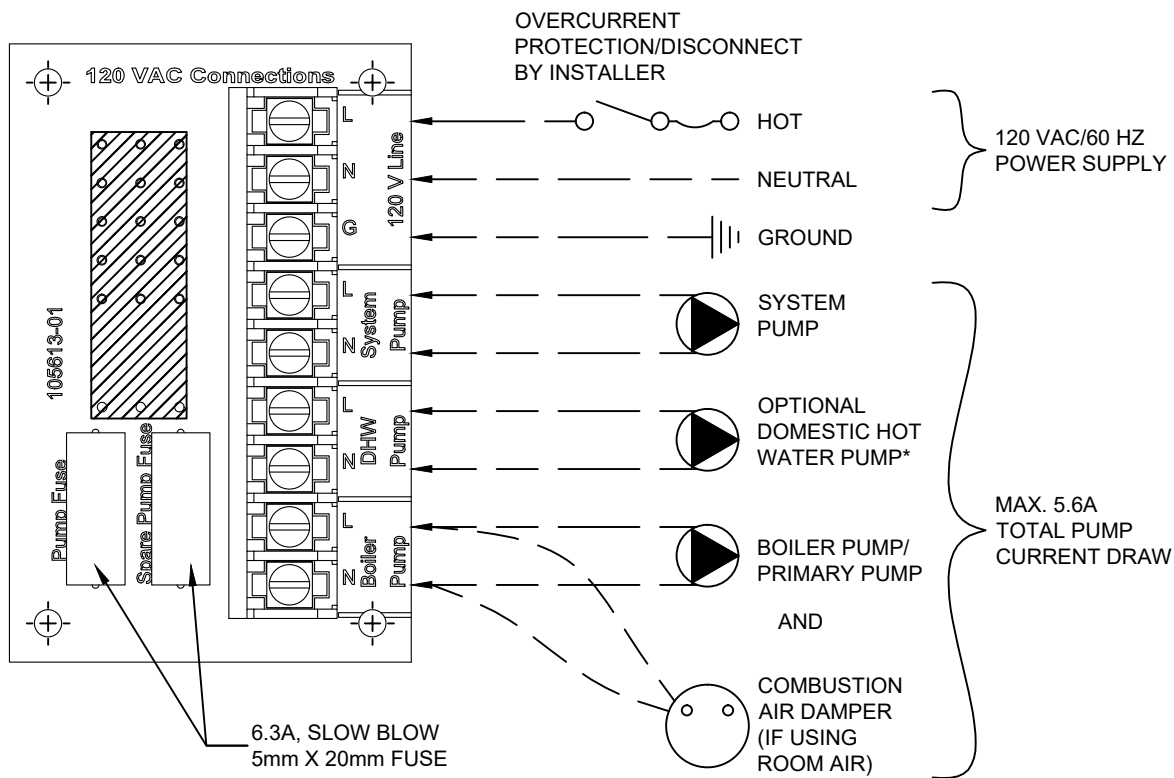

Figure 21: 120 VAC Connections PCB
- b. 120 VAC PCB (Figure 21) has connections for line voltage and pumps. Do not exceed 5.6A total pump current draw (system + DHW + boiler pumps). One 6.3A slow-blow pump fuse and spare are provided.